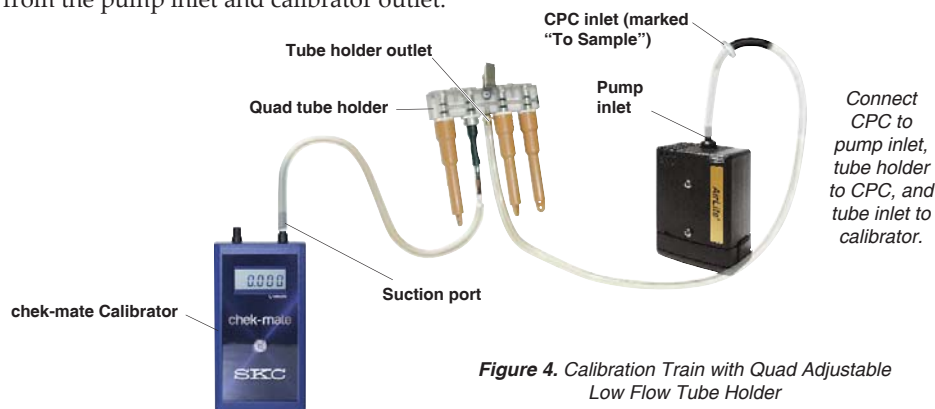

Figure 4. Calibration Train with Quad Adjustable Low Flow Tube Holder
- Attach the tubing on the CPC outlet (side of the CPC without a label) to the pump inlet. Attach the Adjustable Low Flow Holder to the CPC inlet (marked "To Sample"). See Figure 4.